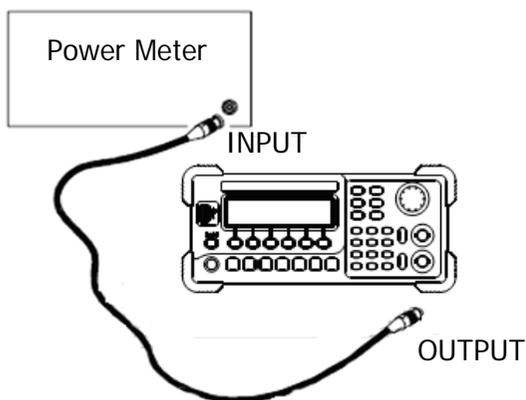

Figure 3-11 Output Flatness Adjustment Connection
1. Connect the power meter and the signal generator as shown in Figure 3-11. Set the output impedance of the signal generator to 50 Ω .